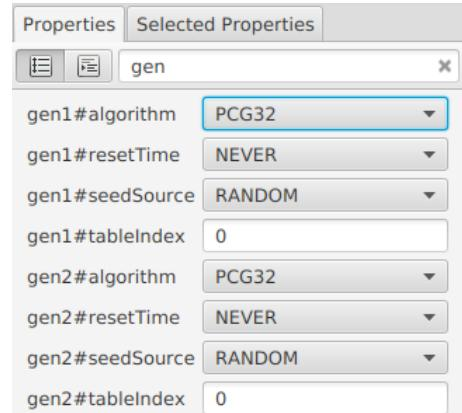

Figure 65. Displaying just the properties of the random number generators.
3. Enter 'gen' in the search field. Now only properties of nodes `gen1` and `gen2` are displayed (Figure 65).